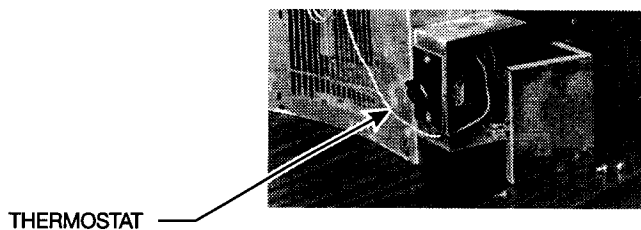

Figure 20
6. Undo the thermostat and carefully straighten and remove it for reuse. **See Figure 20.**